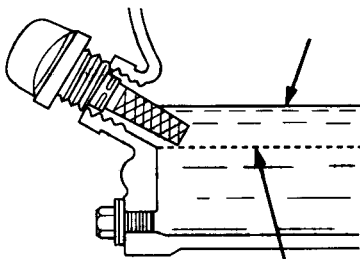

Figure 5. Oil Level
4. If the oil level is low (Figure 5), fill to the edge of the oil filler hole with the recommended oil type (Table 3). Maximum oil capacity is 400 cc.